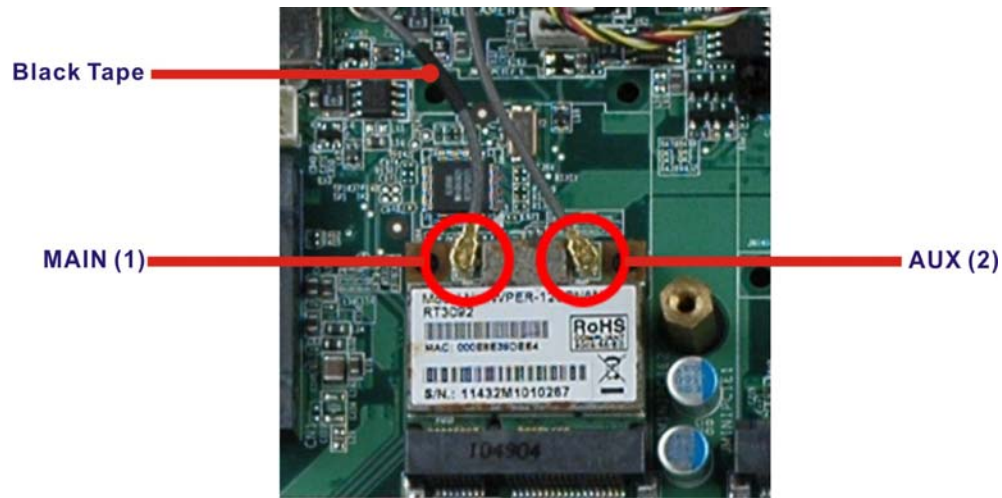

Figure 7-8: Attaching the Antennas
Step 11: Connect the main (1) and auxiliary (2) antennas. The main antenna is indicated with a strip of black electrical tape. See **Figure 7-8**.